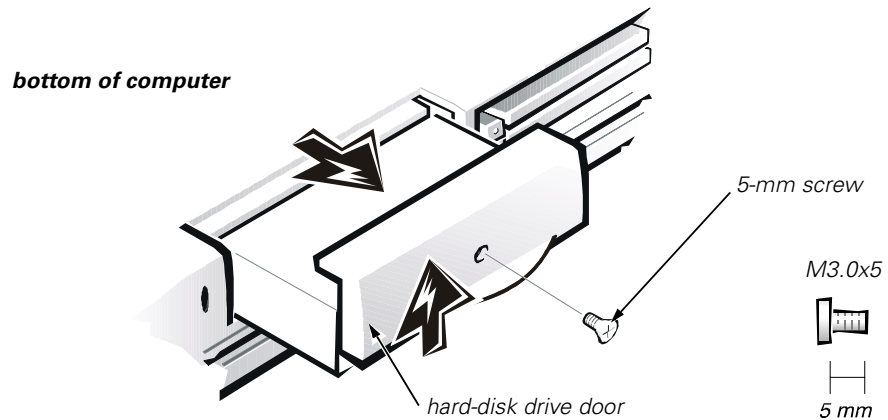

Figure 6. Hard-Disk Drive Assembly Removal
1. Turn the computer over, and remove the 5-mm screw from the center of the hard-disk drive door (see Figure 6).